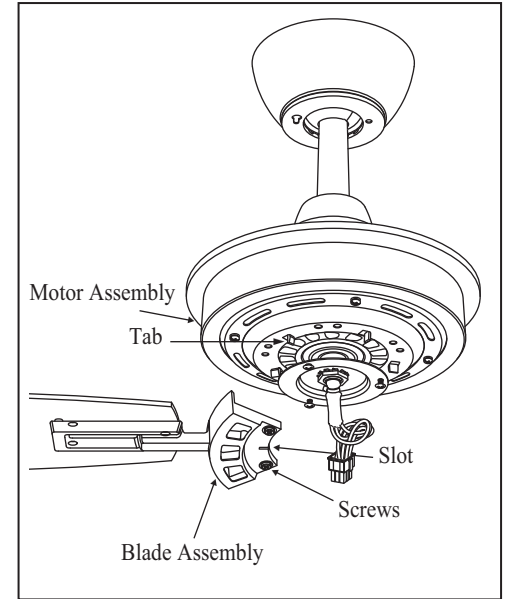

Figure 14
3. Fasten the blade assemblies to the motor by lining up the slots of the blade arms with the tabs on the motor, then tighten the two screws and washers already installed in the blade arms (Fig. 14).